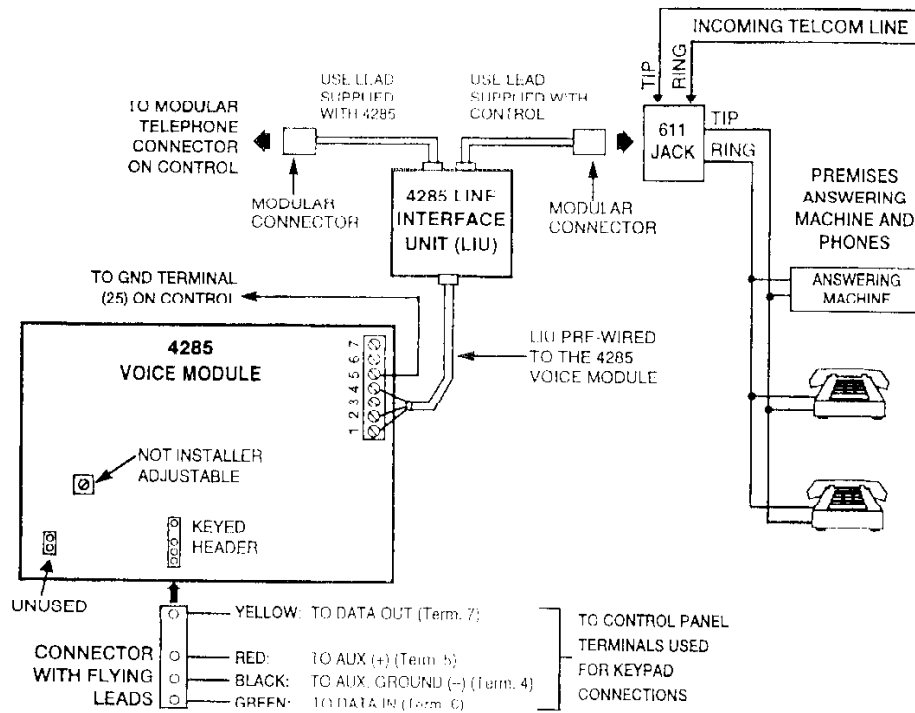

Figure 10. 4285 Voice Module Wiring
- Make 12V (+) and (-) and data in and data out connections from the 4285 Voice Module to the control's keypad terminals, using the connector cable supplied with the Voice Module (see the Figure 10 that follows).
- Use the modular phone lead supplied to connect to incoming telephone line (via 611 socket) to the 4285 Line Interface Unit (LIU) as shown in Figure 10.